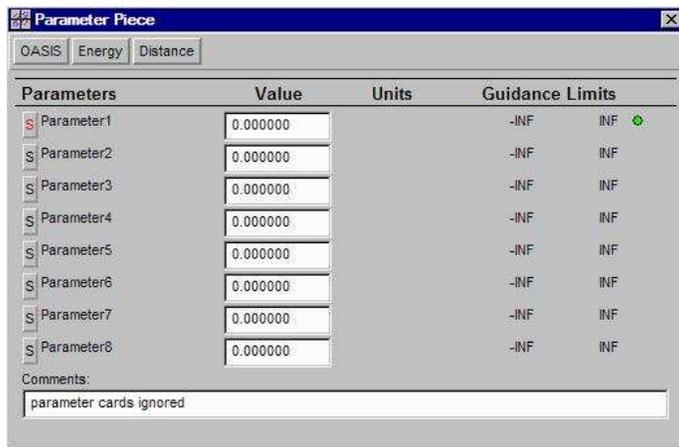

Figure 47. PBO Lab Parameter Piece window.
The PBO Lab Parameter Piece provides an element that can be used to input up to eight (8) parameters (per Piece) which may be assigned basically the same attributes as the parameters of any other optical component. The selection and syntax specification of parameters for use in an OModule follows the same steps as that involved for a drift (Figures 17-21), but the Parameter Piece offers up to 8 unitless parameters than can be selected for use. Figure 47 illustrates the Parameter Piece window.
The example illustrated in Figure 47 shows only one parameter selected for use. The corresponding Special Parameter Settings (SPS) window for this parameter is very similar to that illustrated in Figures 18 and 19 and is not illustrated here. The only notable difference is the absence of any units selection for the selected parameter (Parameter1). The specification of the syntax for selected parameters follows the same procedures as outlined for other Pieces. Figure 48 illustrates DIMAD-sample syntax specification for the Parameter Piece shown in Figure 47.
Note that the DIMAD-sample syntax for the Parameter Piece shown in Figure 47 does not actually use the parameter selected for the OModule (PARAMPIECE34). Instead, the syntax simply specifies a comment line and XSIF Marker line that will appear in the Main Input File at the location of any PBO Lab Parameter Pieces in the model. This is a convenient method for temporarily supporting any PBO Lab Piece during the on-going process of developing an OModule.